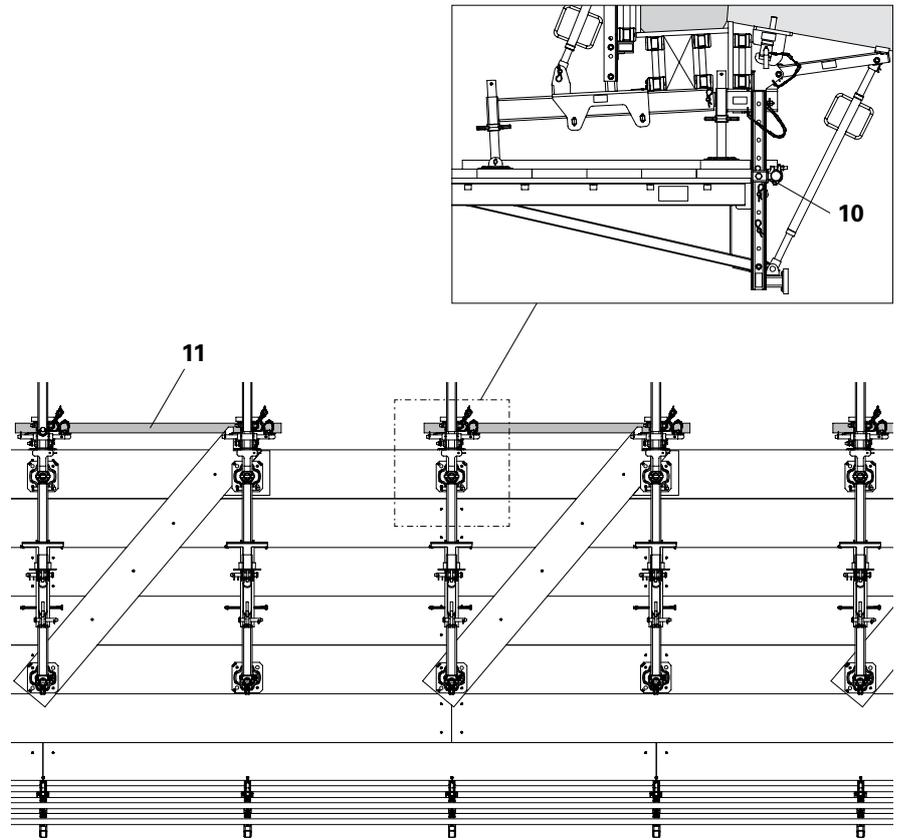

Fig. A8.02
1. Screw Brace Connector VGK (10) in to each Bracket Post VGK, M16 x 80 at the height of the decking.
2. Mount scaffold tube (11) on two couplings.
- (Fig. A8.02)